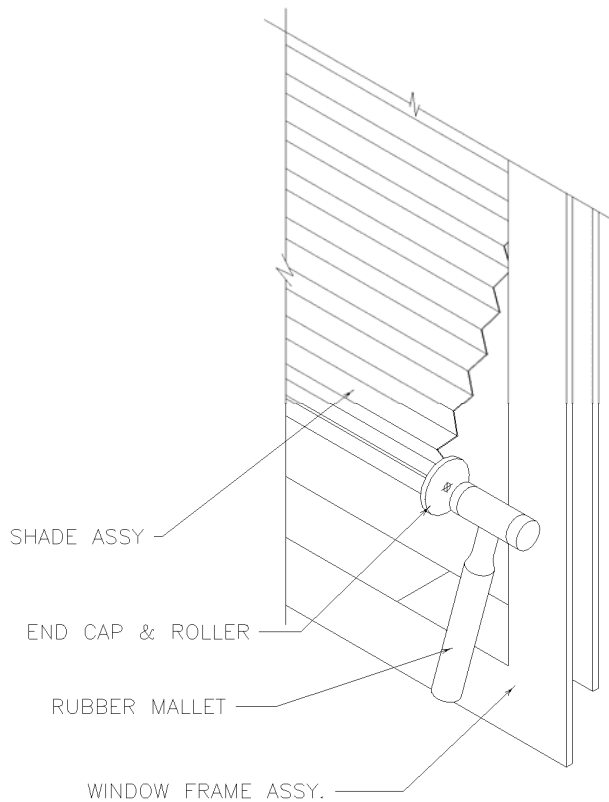

FIGURE 15/ GRAPHIC 25-23-02-991-015
5. Lower rail and end cap reattachment (Refer FIGURE 15/ GRAPHIC 25-23-02-991-015)